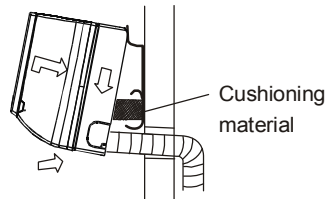

Figure 11
**NOTE:** By placing cushioning material between the indoor unit and the wall, placement of piping is easier (see Figure 11). REMOVE CUSHIONING MATERIAL AFTER PIPING IS COMPLETED.